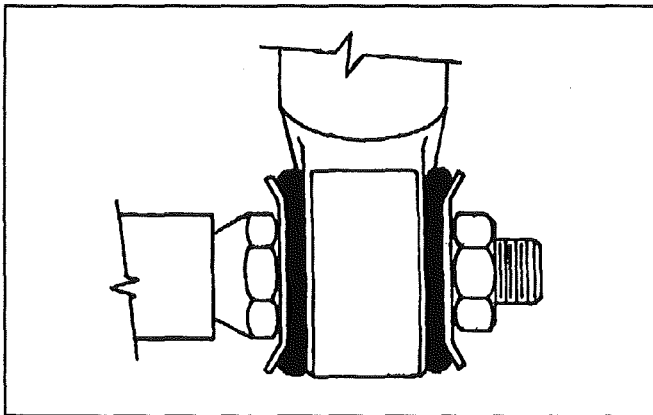

FIG. 18
3. Place the inner washers (with washer convex side facing the shock absorber rubber bushing) on each shock absorber pin (see figure 18).